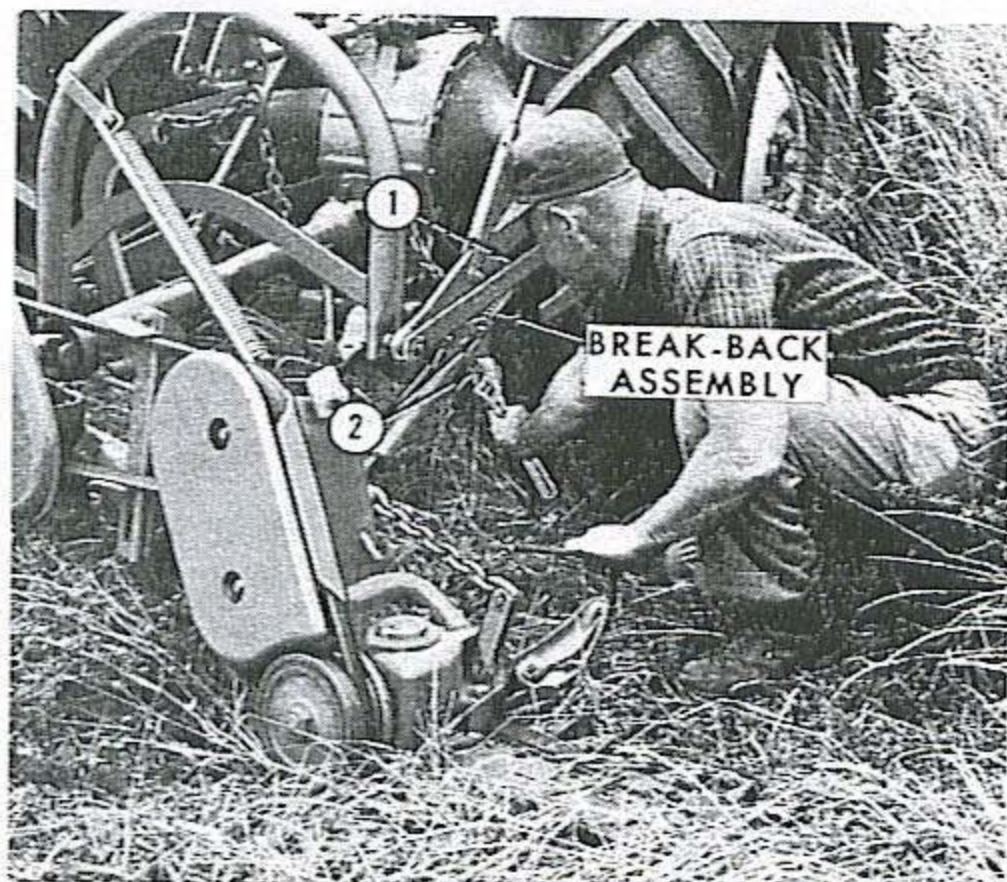

Figure 13
Gradually and equally tighten the adjusting nuts (2), Figure 13, evenly until the breakback is compressed to 10-7/16" (factor of 10). This adjustment should be satisfactory under normal conditions. Tension may be increased if necessary but should not be reduced below the normal adjustment.